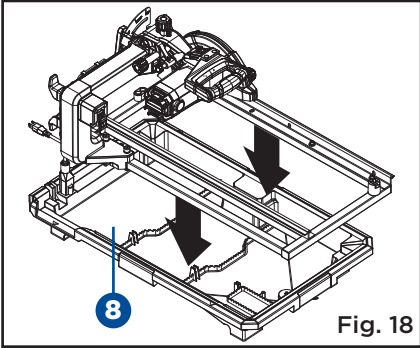

Fig. 18
- Tighten previously installed hex socket cap screws M10 x 60 mm (4) using the 8 mm hex key and the open end of arbour nut wrench provided.
- Place water tray frame assembly on the water tray (8). (Fig. 18)